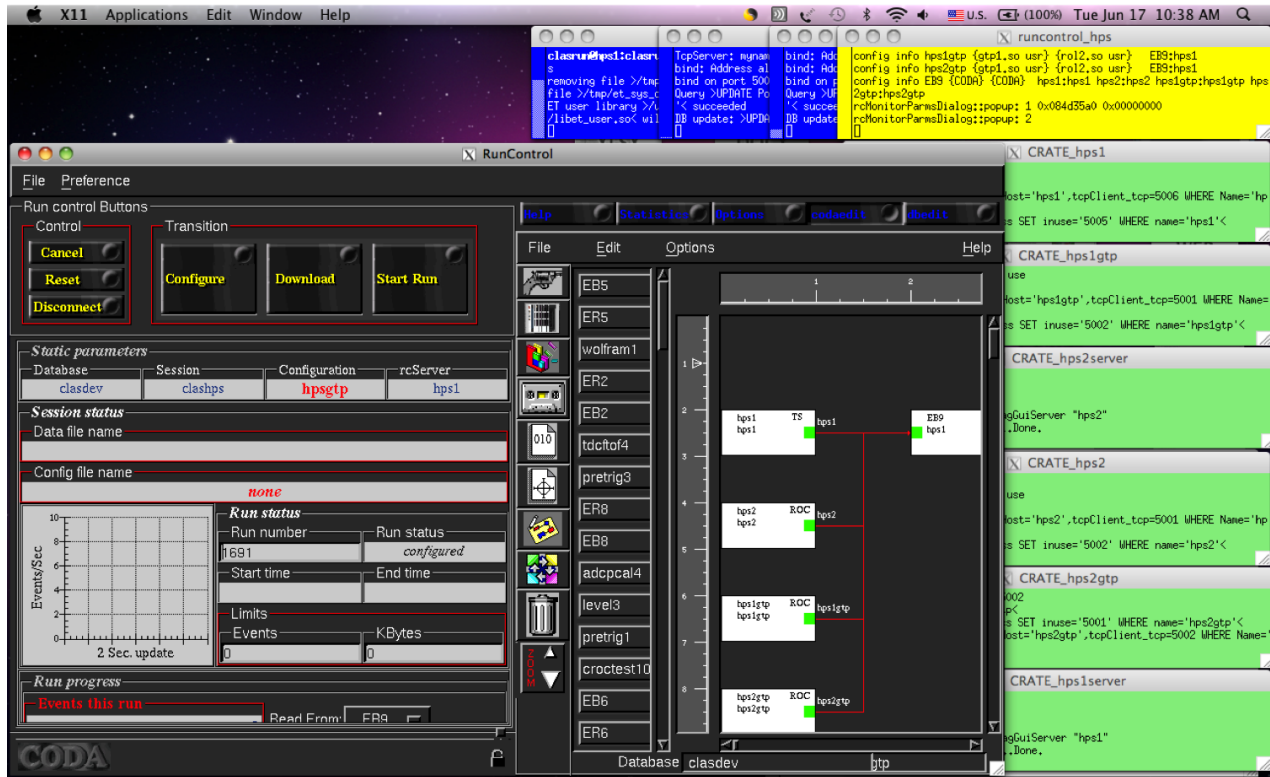

Figure 1: CODA workspace.
This opens up all windows needed on the current workspace. The workspace should look like Fig. 1.
This does not have to be done from the same terminal used for Section 2.1. Do not proceed with DAQ operations until all the windows in Fig. 1 have disappeared.
3. Wait for all windows in Fig. 1 to have disappeared.